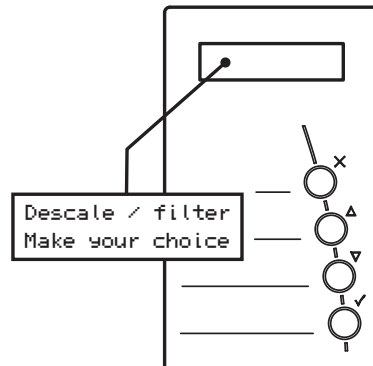

Fig. 46
-  The dispensed drinks are counted during use. If the set time for service is reached, the display shows the following message: Descale / filter (fig. 46).